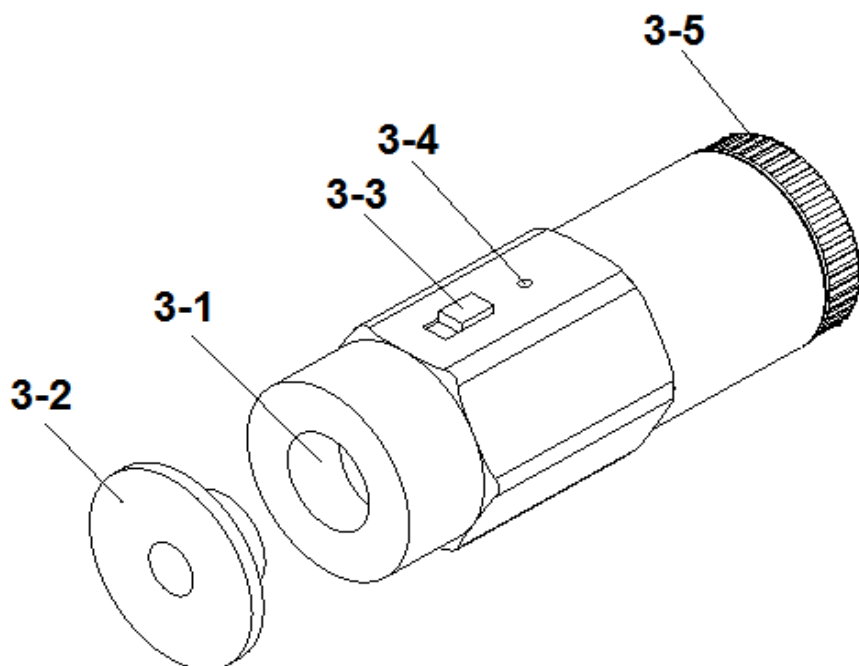

Fig. 1
- 1) If the calibrated " SOUND LEVEL METER " used the 0.5" microphone, then on the " Couple Section " (3-1, Fig. 1) should install the " 0.5" Mic. Adapter " (3-2, Fig. 1) first.
*If the calibrated " SOUND LEVEL METER " used the 1 inch microphone, then on the " Couple Section " (3-1, Fig. 1) should take away the " 0.5" Mic. Adapter ".*
- 4) Slide the " Off/94 dB/114 dB Switch " ( 3-3, Fig. 1 ) to " 94 dB " position if the sound level meter intend to check or be calibrated on 94 dB value.
Slide the " Off/94 dB/114 dB Switch " ( 3-3, Fig. 1 ) to " 114 dB " position if the sound level meter intend to check or be calibrated on 114 dB value.
Under the normal operation, slide " Off/94 dB/114 dB Switch " ( 3-3 , Fig. 1 ) to the " 94 dB " or " 114 dB " position, the " Power/Low Battery Indicator " ( 3-4, Fig. 1 ) will light up, then the battery voltage is normal.
- 1) Take away the " Battery Cover " (3-5, Fig. 1).